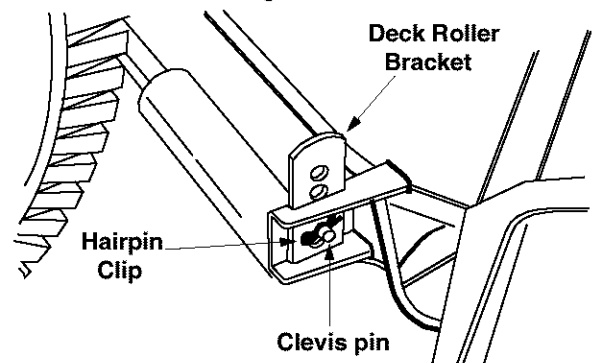

Figure 10
- Remove the clevis pins and hairpin clips from the deck roller brackets on the left and right sides of the cutting deck. See Figure 10.
with the clevis pins and hairpin clips just removed. See Figure 10.